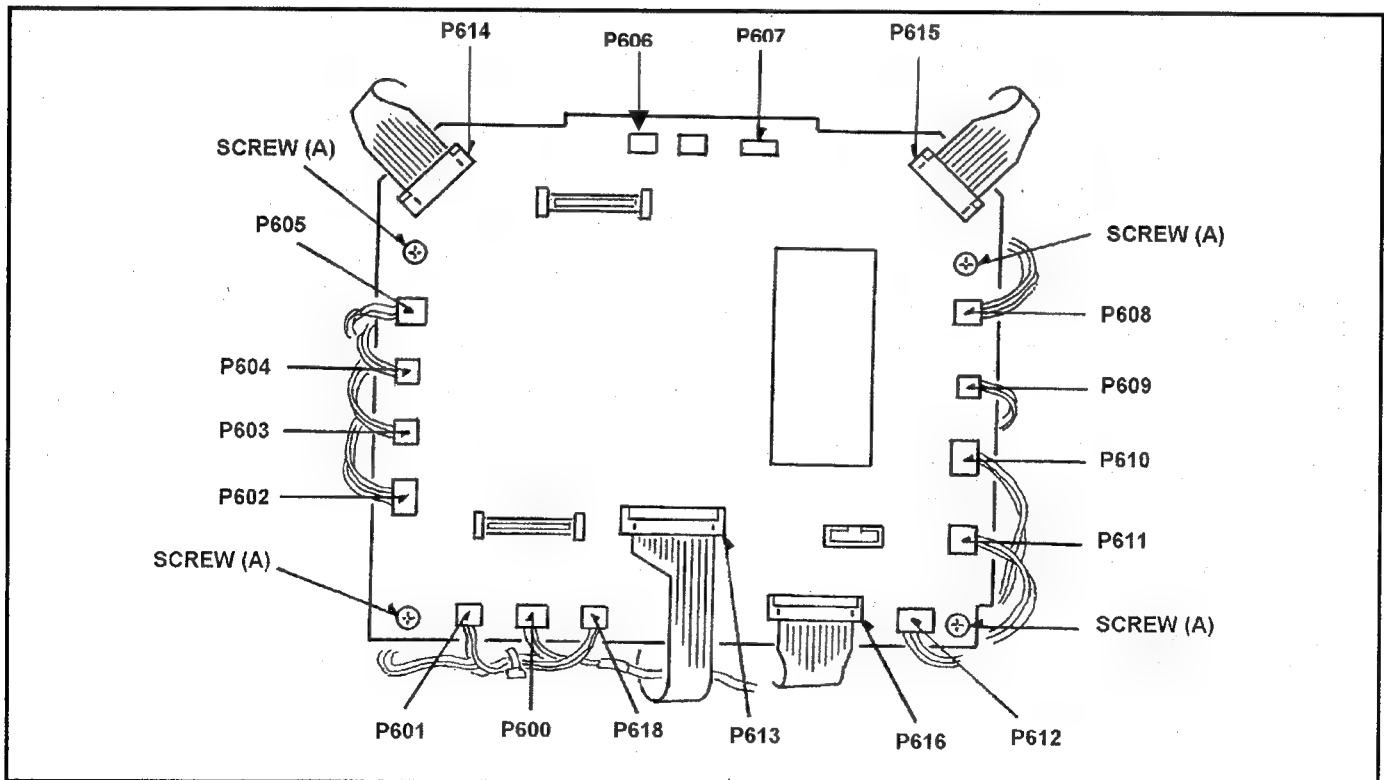
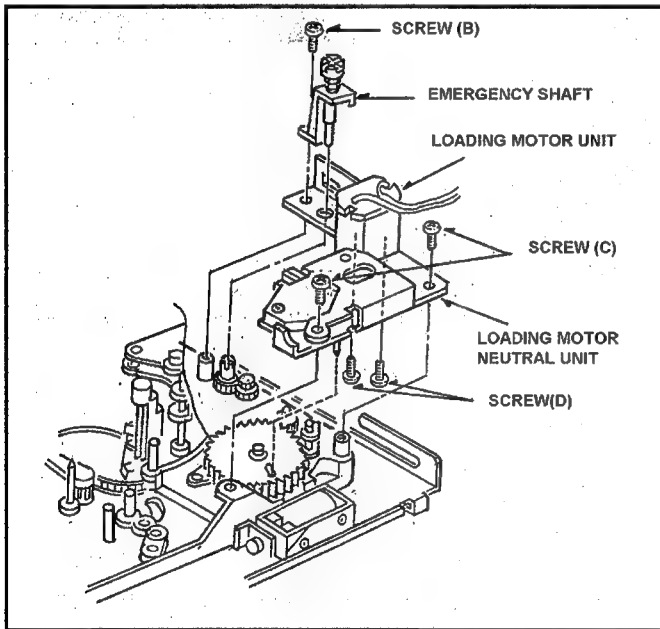
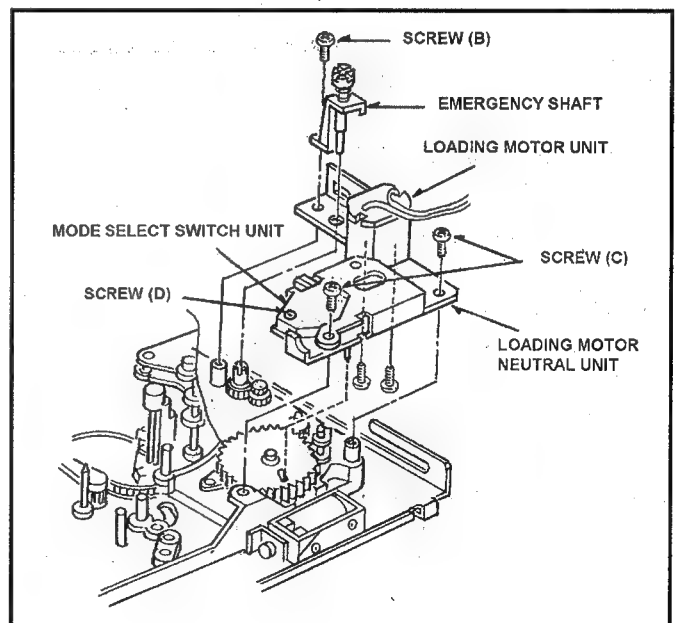

Fig. 10-3-1 Connection of Servo P.C.Board
Fig. 10-4-1 Removal of Loading Motor Unit
Fig. 10-7-1 Removal of Mode Select Switch Unit
3. Disconnect the **connector P612** on **Servo P.C.Board** as shown in Figure 10-3-1.
4. Remove the Pinch Solenoid Unit (Refer to item 10-9).
5. Remove the Pinch Solenoid Lever. (Refer to item 10-5).
6. Unscrew the **screw (B)** to remove the Emergency Shaft as shown in Figure 10-4-1.
7. Unscrew the **2 screws (C)** to remove the Loading Motor Neutral Unit as shown in Figure 10-4-1.
8. Unscrew the **2 screws (D)** to remove the Loading Motor Unit as shown in Figure 10-4-1.
3. Disconnect the **connector P610** on the **Servo P.C.Board** as shown in Figure 10-3-1.
3. Remove the Mech Chassis Unit (Refer to item 11-4).
4. Disconnect the **all connectors** on **Servo P.C.Board**. Unscrew the **4 screws (A)** to remove the Servo P.C.Board as shown in Figure 10-3-1.
5. Unscrew the **screw (A)** to remove the Cassette Down Photo Unit.
6. Unscrew the **screw (B)** to remove the M-Lock/Release Piece Unit.
7. Unscrew the **2 screws (C)** to remove the M cassette Brake Base Unit. Then pick up the pin of Eject Arm Unit.
3. Disconnect the **connector P612** on the **Servo P.C.Board** as shown as Figure 10-3-1.
4. Remove the Pinch Solenoid Unit and Loading Motor Neutral Unit (Refer to item 10-4).
5. Remove the **screw (D)** to remove the Mode Select Switch Unit from Loading Motor Neutral Unit as shown in Figure 10-7-1.